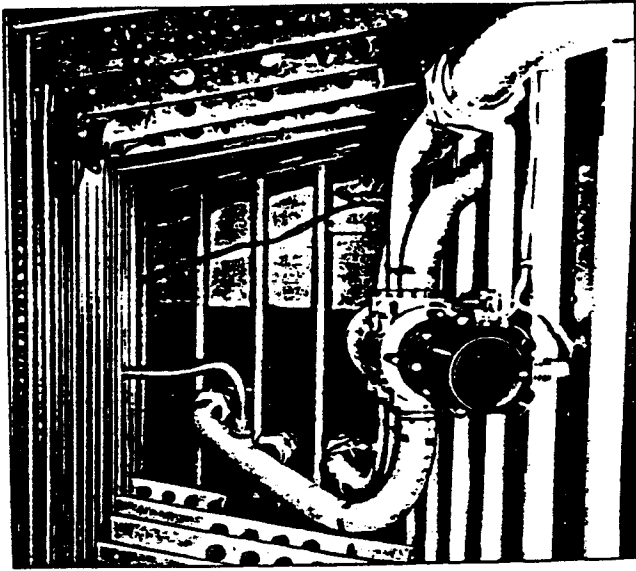

Figure 5. Multiple CO₂ Valve Installed
(b) MOTOR OPERATED VALVES. (See figure 5.)
6. INSTALLATION. (See figure 5.)